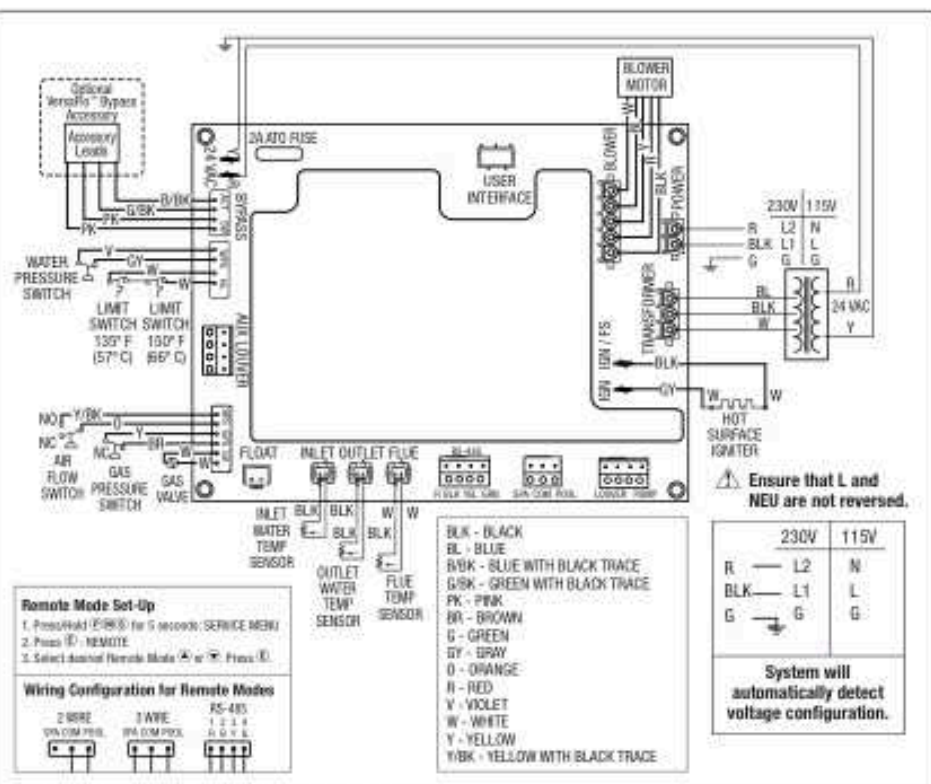

Figure 21. Wiring Diagram for 230/115 VAC Installations
Refer to Figure 21 for a complete diagram of wiring connections and terminals.
- Connect the wiring from the pool/spa control system to the heater remote control terminal. See Figure 21.